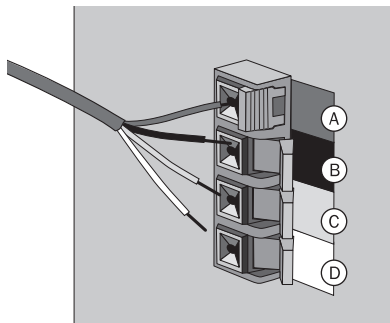

figure 15
2. Connect wires to the power unit connector. Insert each wire in the designated inlet, of the corresponding color. To do so, simply open the connector, insert the wire, and close (**figure 15**). Repeat for the remaining 3 wires.